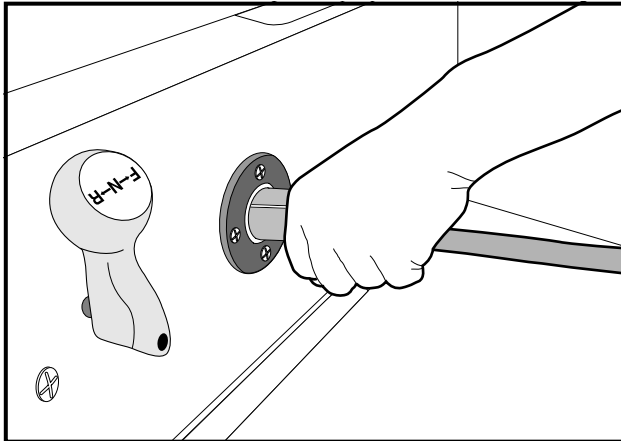
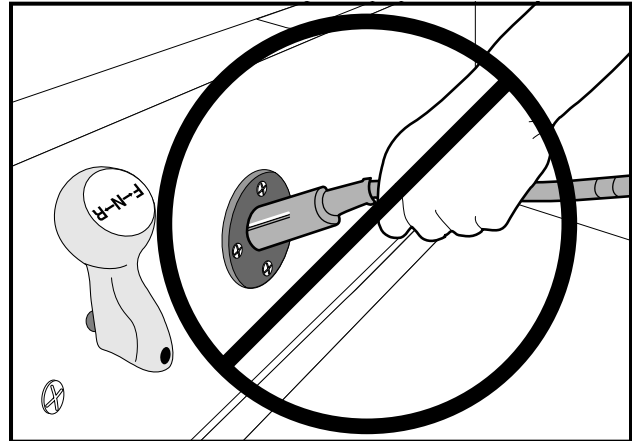

FIGURE 30
FIGURE 31
- WHEN USING AN EXTERNAL STATIONARY CHARGER, DO NOT PULL ON THE DC CORD (**FIGURE 31, PAGE 50**). DO NOT TWIST, ROCK, OR BEND THE PLUG. TO DISCONNECT THE PLUG FROM THE RECEPTACLE, GRASP THE PLUG, *NOT THE CORD*, AND PULL IT SLOWLY STRAIGHT OUT OF THE RECEPTACLE (**FIGURE 30, PAGE 50**).
Insert the charger AC plug into a dedicated AC receptacle that is properly grounded and wired in accordance with the National Electric Code, ANSI/NFPA 70, and all local codes and ordinances. Then insert the charger DC plug into the vehicle receptacle. The charger will turn on two to ten seconds later (**Figure 30**).